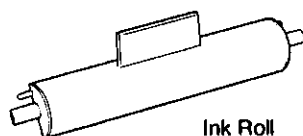

Fig. 5
- \* The Ink Roll is a consumable product and a genuine part supplied by TEC. Ask your TEC representative for an additional order. (Fig. 5)